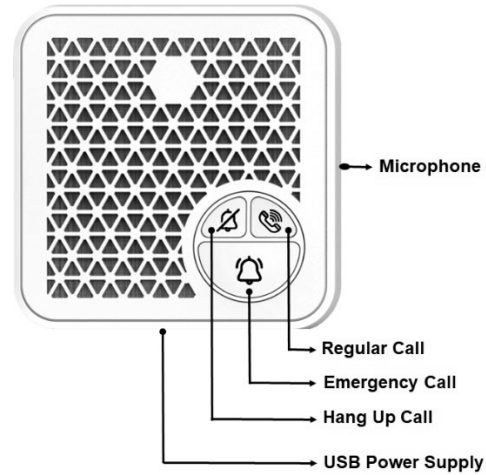

Figure 1
1. Install the module as indicated on figure 1, 2 and 3.